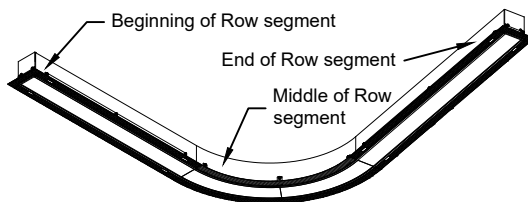
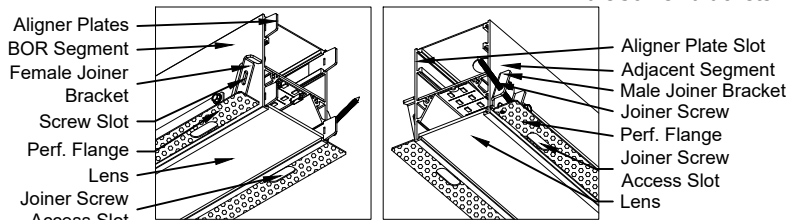

Fig. 6 Run/Pattern Installed.
Fig. 7 Joiner Details.
- Complete run or pattern ceiling cutout has to be long enough to allow at least 5/8" along housing movement for aligner plates engagement (Fig. 6).
- Open end of BOR segment (shown at left on Fig. 7) has Aligner Plates and both Female and Male Joiner brackets. Locate adjoining fixture segment. That might be Middle of Row (MOR) or End Of Row (EOR) segment (shown at right on Fig. 6).
- Slide adjacent segment to installed BOR segment. Make sure aligner plates slide into adjoining housing slots and Male bracket joiner screws on both segments aimed into Female bracket slots (Fig. 7).